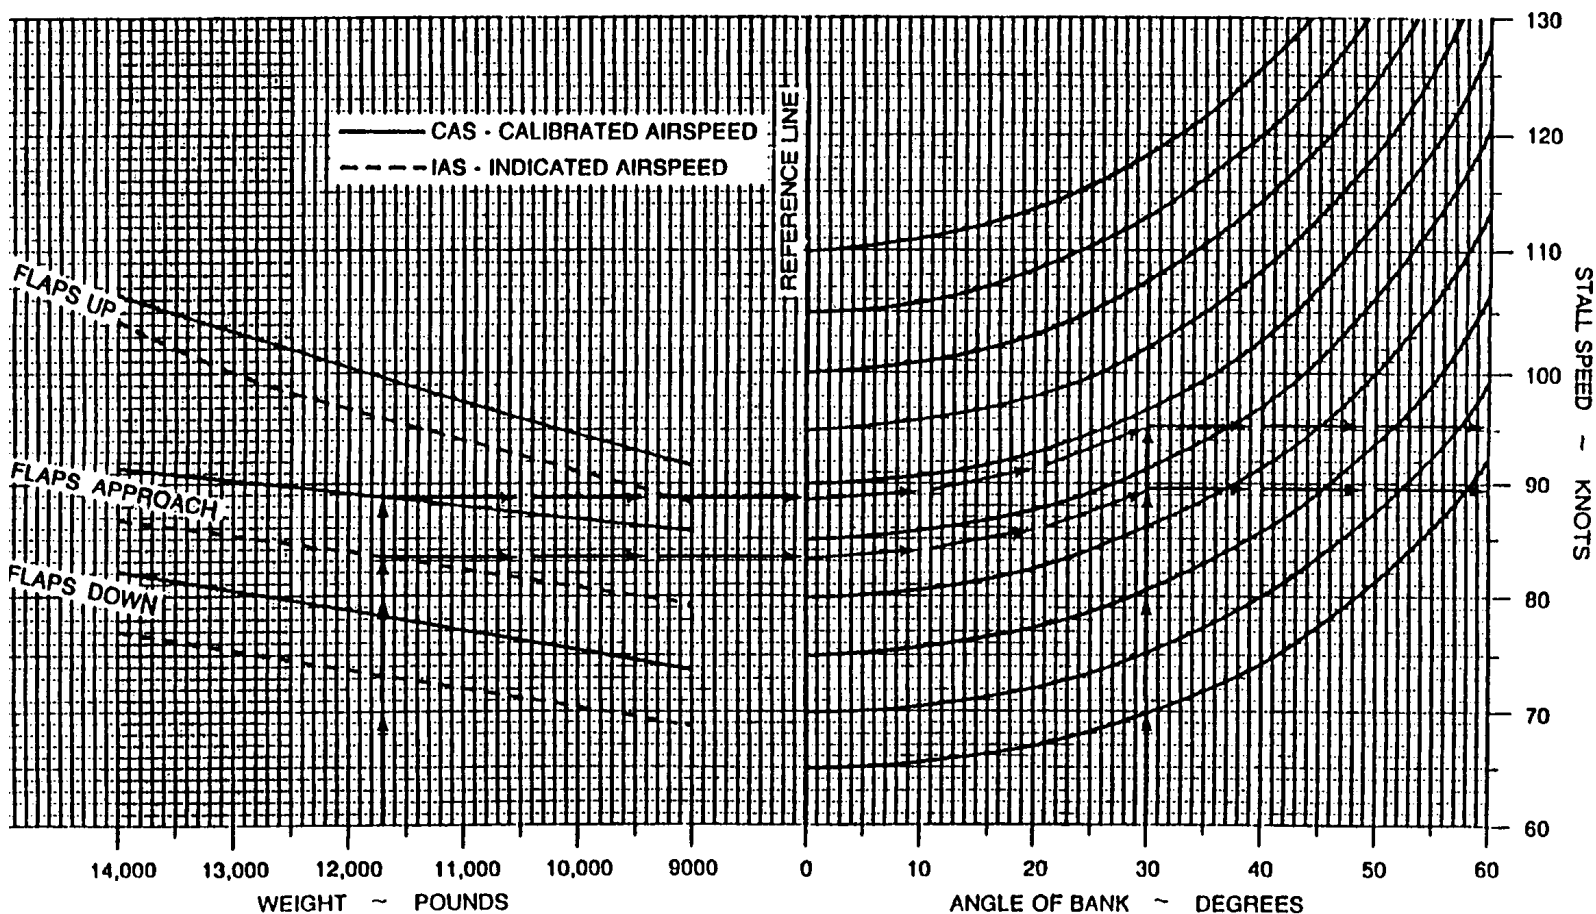

Figure 8-3. Stall Speeds - Power Idle
b. Power-Off Stalls. The roll tendency is considerably less pronounced in power-off stalls (in any configuration), and is more easily prevented or corrected by adequate rudder and aileron control, respectively. The nose will generally drop straight through with some tendency to pitch up again if recovery is not made immediately. With flaps down, there is little or no roll tendency and stalling speed is much slower than with flaps up. The Stall Speeds chart shows the indicated power-off stall speeds with aircraft in various configurations. Refer to Figure 8-3. Altitude loss during a full stall may be as much as 1,000 feet.